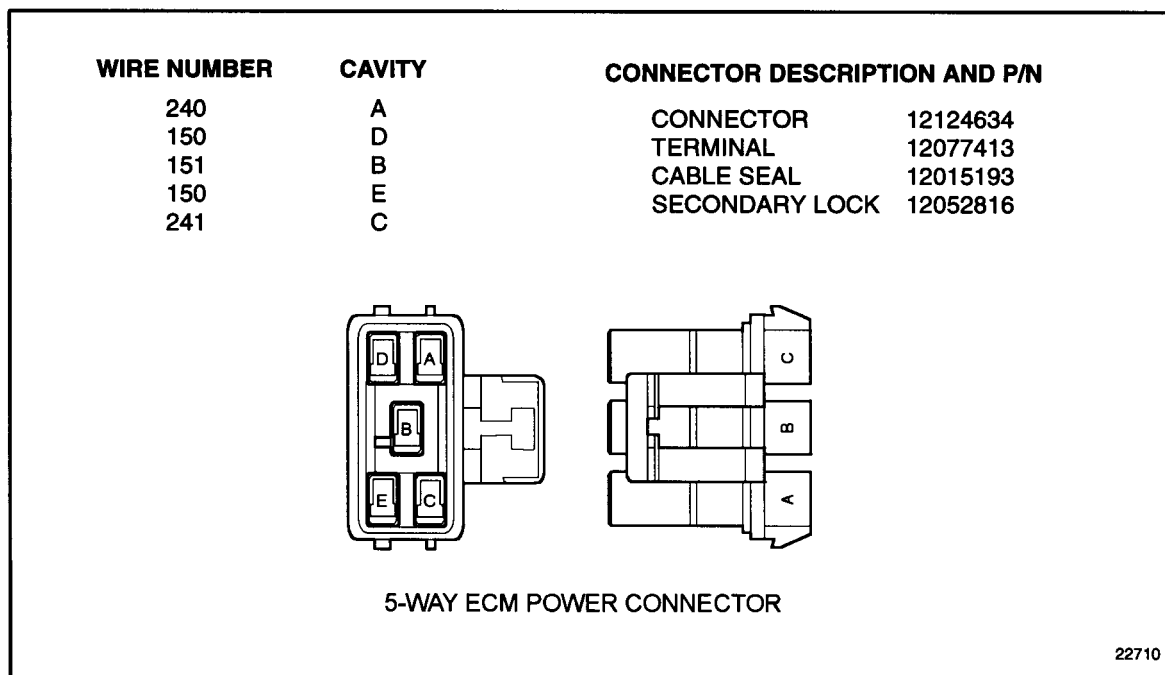

Figure 10-7 5-Way ECM Power Harness Connector
1. Measure voltage between socket B3 on the vehicle harness connector (red lead) and sockets D and E of the 5-way power harness connector. For 5-way ECM power harness schematic, see Figure 10-7.